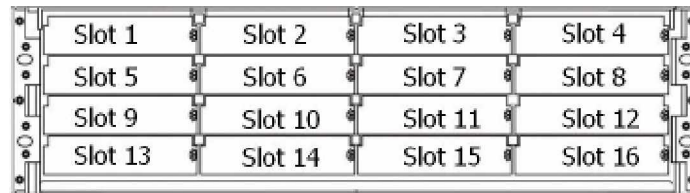

Figure 1-4: Hard Drive Numbering
The front panel of the Falcon III enclosure houses sixteen (16) hard drives in a 4x4 configuration as shown in *Figure 1-4*. When viewed from the front, the drive bays (slots) are numbered 1 to 16 from top to bottom, from left to right.